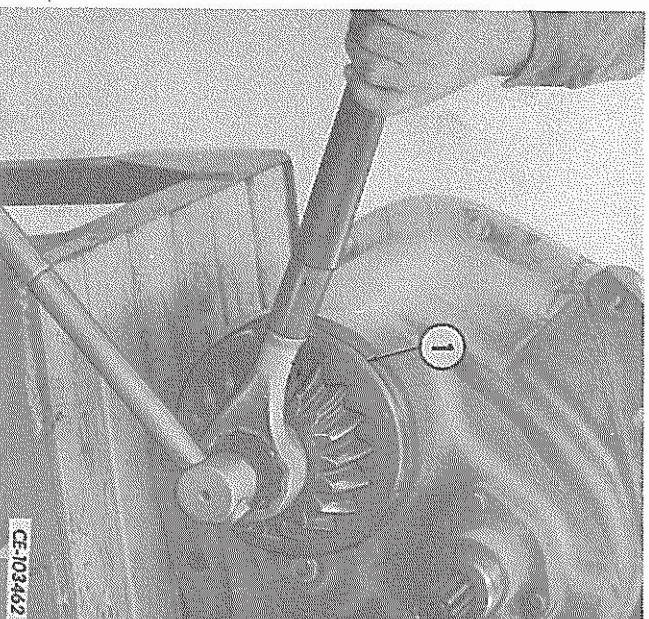

FIG. 18 — Removing the Pinion Shaft Rear Nut
7. Insert a breaker bar (3/4 inch drive) in the end of the pinion shaft and remove the pinion shaft rear nut with a box-end wrench and bar (Fig. 18). Remove and discard the transmission case sealing ring (1, Fig. 18).